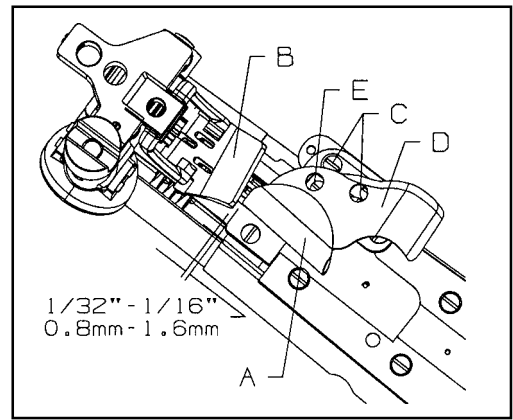

FIG. 22
Slide folder (A, Fig. 22) on arm. The folder should be as close to the front of presser foot (B) as possible, making sure to avoid the presser foot contacting the folder when sewing across seams. If adjustment is necessary loosen screws (C) to move entire folder left to right or front to back as required. If just adjustment of upper scroll (D) is needed loosen screw (E) and position scroll to obtain proper seam margin.